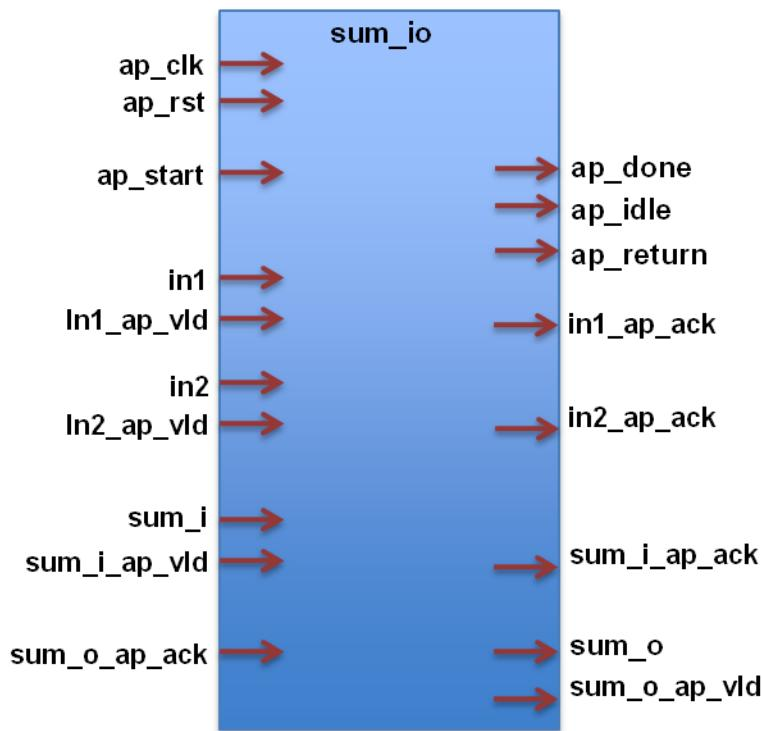

Figure 3-3: RTL Ports After Specified Interface Synthesis
- Many different types of interface can be synthesized from the same source code. If the same code is synthesized with `in1`, `in2`, and `sum` specified as two-way handshakes, the RTL ports would be as shown in Figure 3-3.